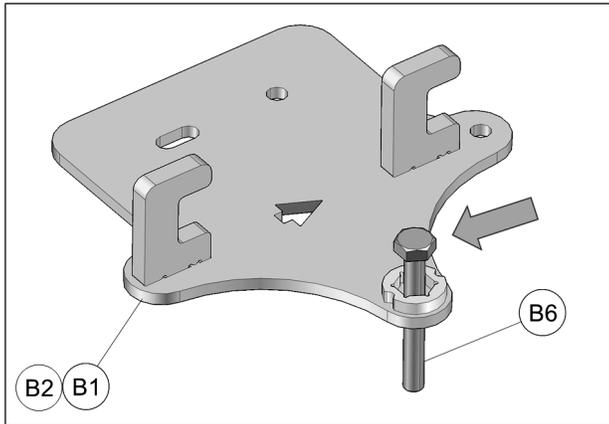

Fig. 4
- Insert M10x80mm bolt (**B6**), provided in the installation kit, in the rear anchor bracket (**B1-B2**) as shown in Fig. 4